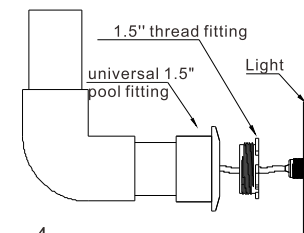

Figure 4
3. As shown in Figure 4, first glue the universal 1.5" pool fitting to the pre-embedded water pipe, then screw well the 1.5" thread fitting, and turn the lamp clockwise and tighten to the 1.5" thread fitting.